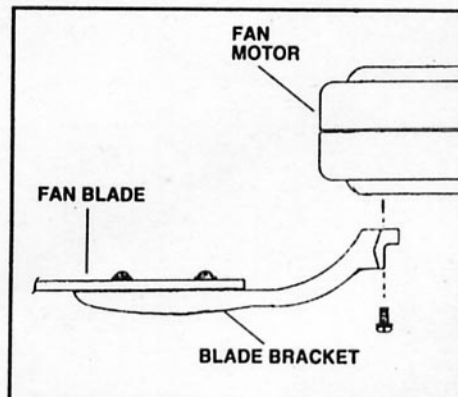

FIG. 15
**Step 2.** Remove the rubber stops from the motor. Rotate the motor so that the screw holes are revealed through the opening on switch cup plate. Align holes in blade bracket and motor and secure with proper screws. Repeat process with the other blade brackets. (Fig. 15)